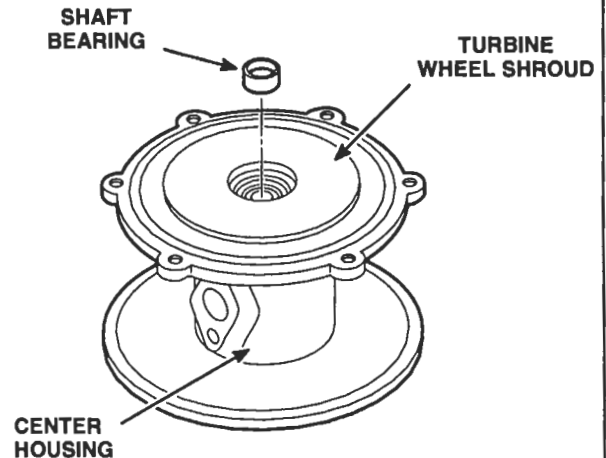

Figure 24. Center Housing Shaft Bearing Installation (Turbine End)
- d. Lubricate the outside diameter of a shaft bearing with engine oil, then place the bearing straight into the bearing bore in the center housing and push it down against the wear spacer (Figure 24.) On former turbochargers, push it down against the bearing inner retaining ring.